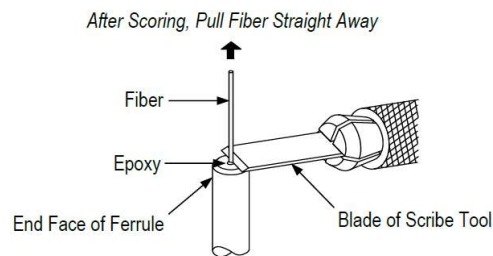

Figure 4
1. Place the blade of the sapphire scribe tool just above the cured epoxy bead on the end face of the ferrule and score the fiber with a light transverse motion. See Figure 4.